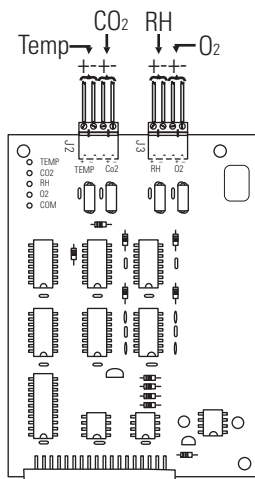

Figure 6-4. Analog Output Board
2. Carefully slide out electronics drawer and locate the Analog Output board (Figure 6-4).